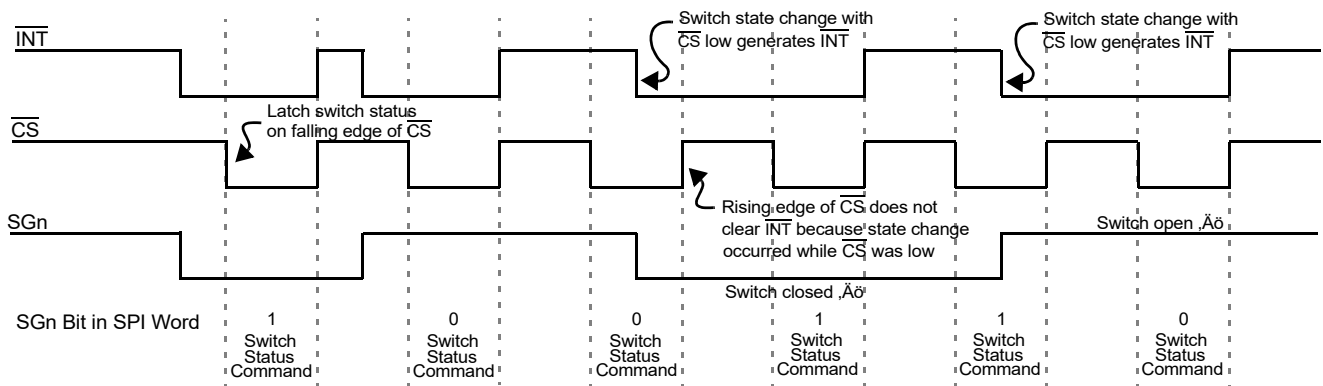

Figure 6. Normal Mode Interrupt Operation
2. \overline{INT} pin is reset to logic [1], except when additional switch changes occur during \overline{CS} low (see Figure 6, page 11).